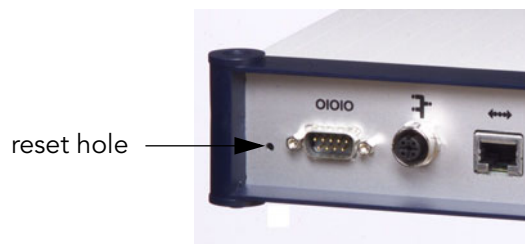

Figure 3. Resetting an A840 Device
1. Reset the A840 device by gently inserting a paper clip in the hole on the backplane near the serial line connector (see Figure 3). After you feel a click, remove the paper clip.